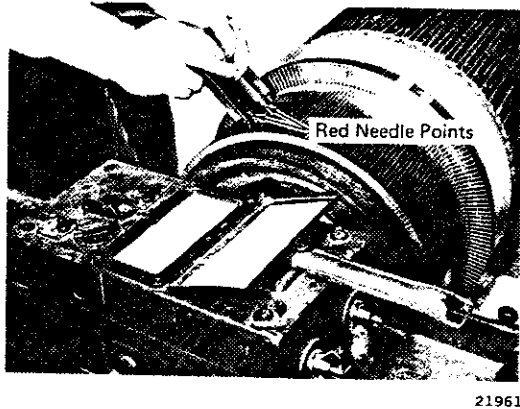

Fig. 1 - Bar-to-Bar Resistance Check
3. Each test prod of the ohmmeter has two needle points. Red is the potential needle and black is the current needle. The prods must be placed so that the red needles are towards the center of the commutator, Fig. 1.